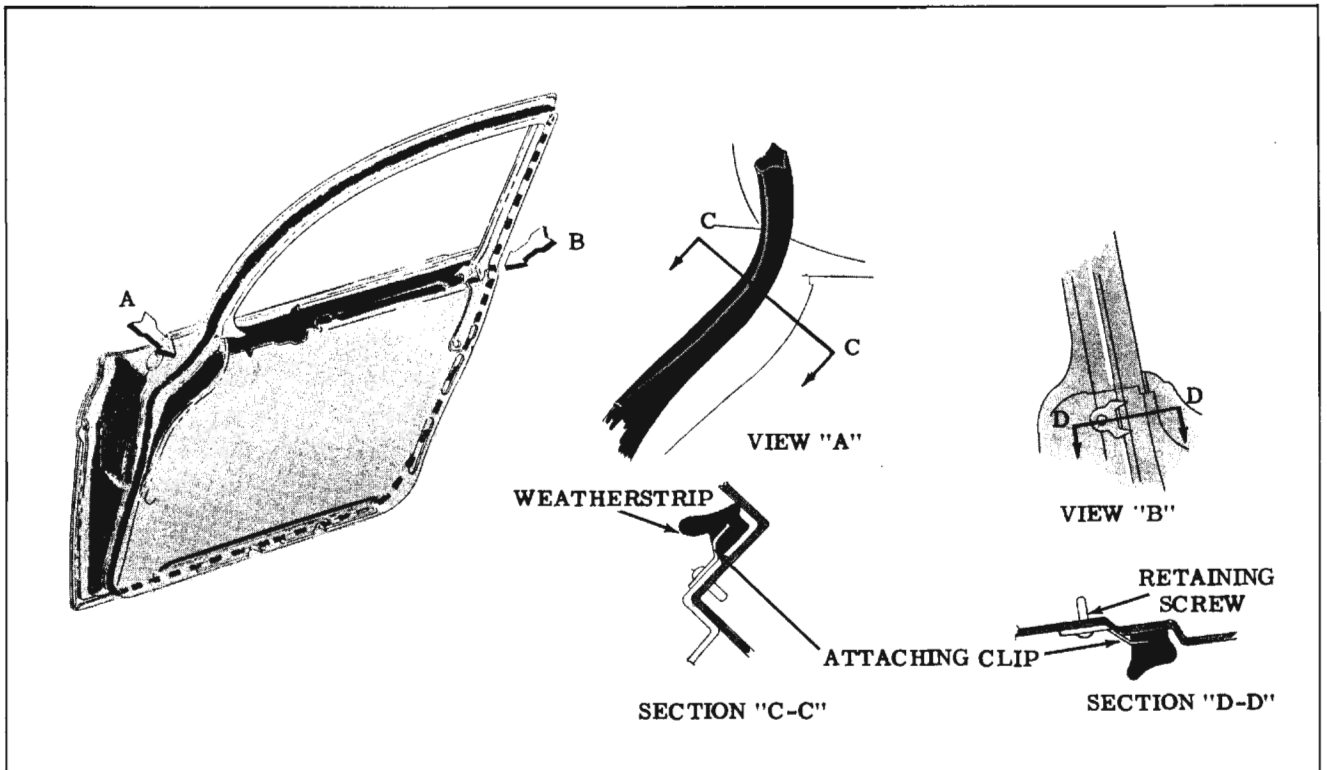

Fig. 16-42 Two Prong Weatherstrip Attaching Clip (Front Door Shown-Rear Typical)
When clip is reinstalled, make sure both prongs are positioned over wire located in center of weatherstrip. Fig. 16-42 shows clips attached to a front door weatherstrip but is typical of rear doors. This clip can be satisfactorily used to retain almost any area of a rear door weatherstrip that proves troublesome. (Fig. 16-42)
6. Press weatherstrip into place at cemented areas and, if applicable, reinstall weatherstrip two-prong attaching clip. Make sure prongs of clip are inserted over wire of weatherstrip. (Fig. 16-42)